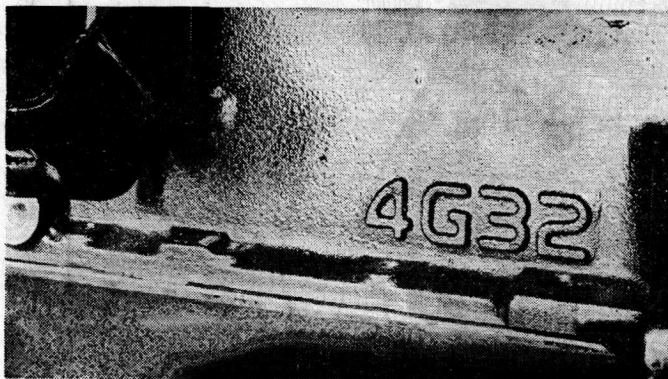

Fig. 2 Engine Model
(1) The engine model is embossed at the rear, lower part on the left-hand bank of the cylinder block. (Fig. 2)